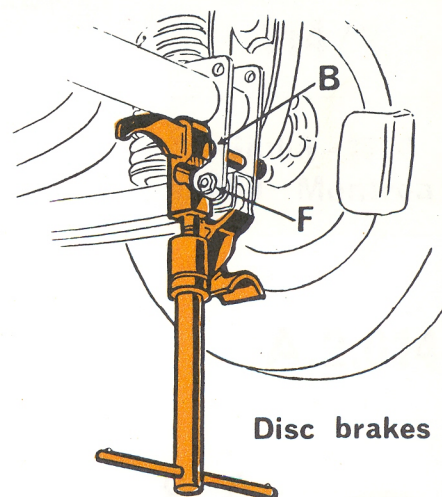

Fig. 2
- 3 Prepare the tool taking care to direct the bracket assembly "I" as shown in fig. 2.
- 5 Rotate handle "D" until the bracket "E" rests firmly against the radius rod attachment as shown in fig. 2.